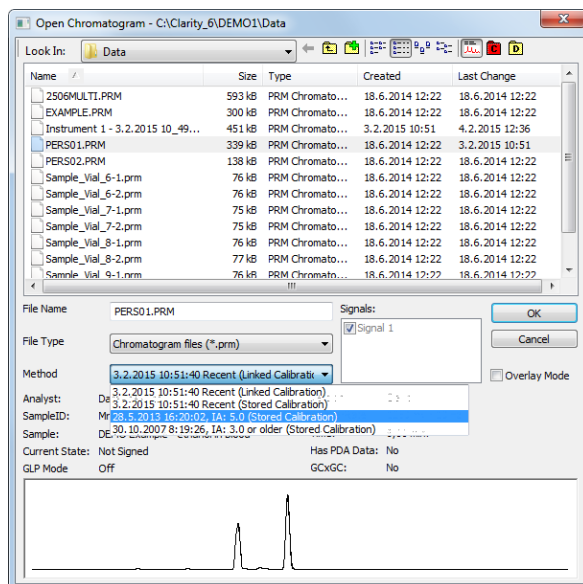

Fig 4: Open Chromatogram with selected Method
- If a chromatogram was measured with old version of Clarity (prior to 6.0), opened and saved with the new version, it contains the old as well as the new data format. Old data and their respective calculations can be accessed via respective *Method* selection in the Open Chromatogram dialog. Choose desired calculation which is defined by integration algorithm (e.g. IA: 5.0 matches Clarity version 5.0 and so on), see Fig 4 on pg 4.